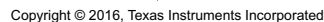

Figure 33. Typical Application Circuit Diagram
Figure 33 illustrates a typical circuit diagram for an AC-DC converter using the UCC2813-Q1 in a peak-current-mode-controlled flyback application.
The DC open-loop gain (G_O) of the fixed-frequency voltage control loop of a peak-current-mode control CCM flyback converter shown in Figure 33 is approximated by first using the output load (R_{OUT}), the primary to secondary turns ratio (N_{PS}), and the maximum duty cycle (D) as shown in Equation 18.